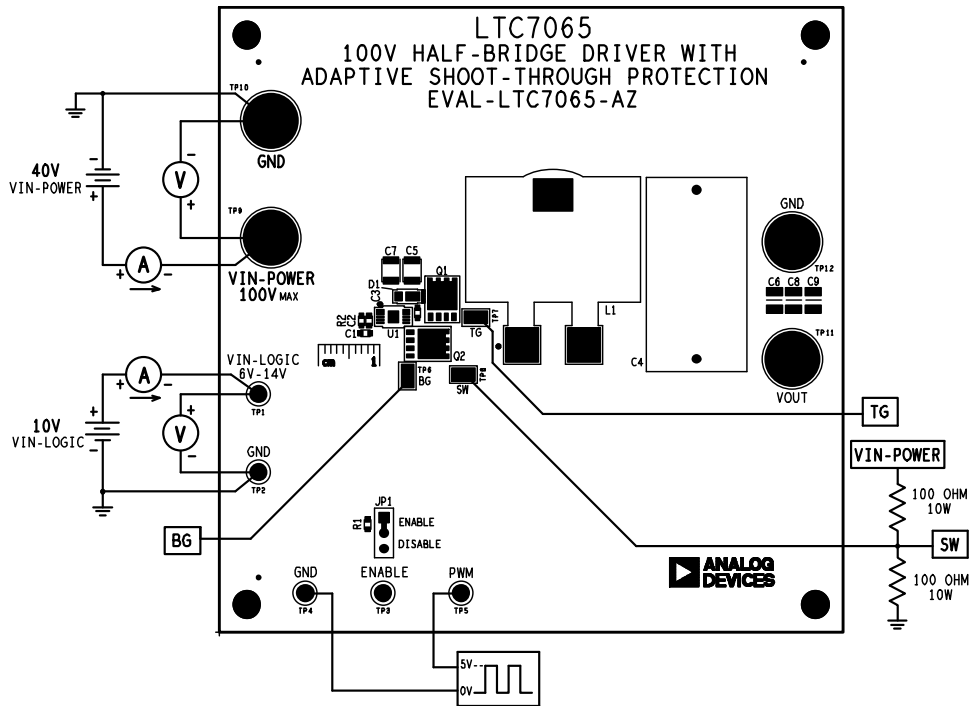

Figure 1. EVAL-LTC7065-AZ Test Setup
The EVAL-LTC7065-AZ can be evaluated without connecting any additional components or a load. However, the user may find adding two load resistors, as shown in Figure 1, provides a better means for evaluating. Alternatively, the user can configure their own application circuit. Test with a resistor divider as a load.
1. Connect two 100Ω power resistors to the SW node, as shown in Figure 1.
4. Apply a square-wave signal at the desired frequency to the PWM pin, as shown in Figure 1.